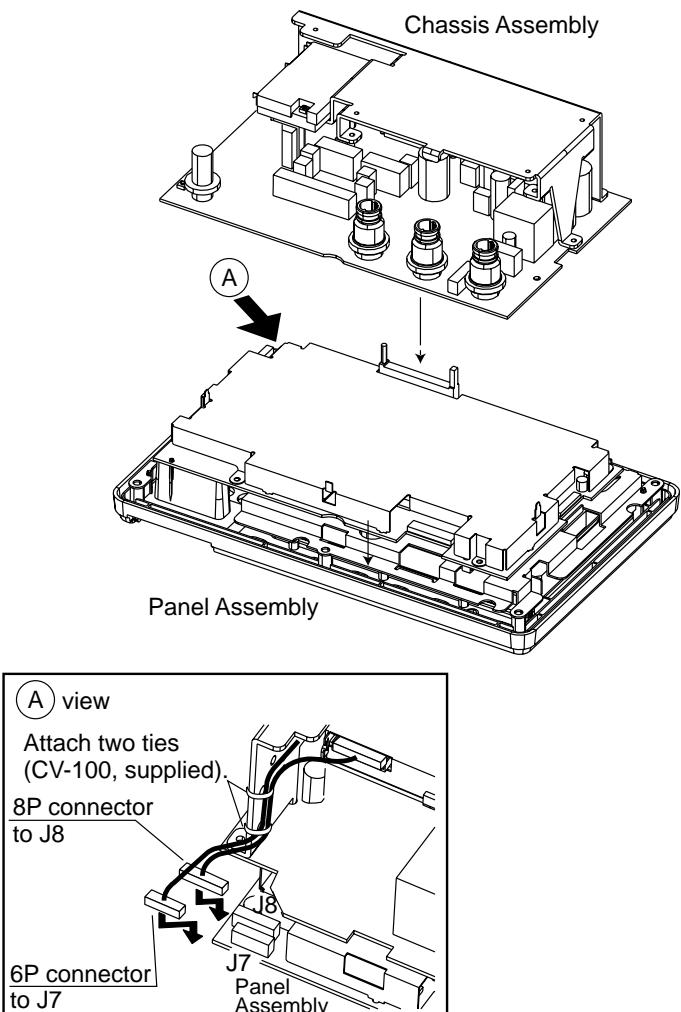

Figure 4-8 Attaching chassis assembly
10. Mount chassis assembly on the panel assembly. Connect 8P connector and 6P connector to Main board as shown in Figure 4-8.